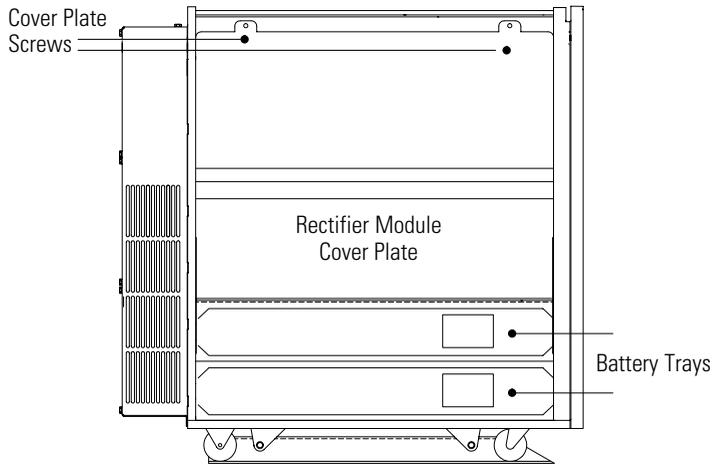

Figure 3. 3 kVA – 6 kVA UPS with Left Side Panel Removed
6. Locate the cover plate for the Rectifier Module on the left side of the UPS (see Figure 3).
14. **Disconnect the two internal battery trays (see Figure 3 on page 8).** The battery connectors are located just inside the square opening on each tray.